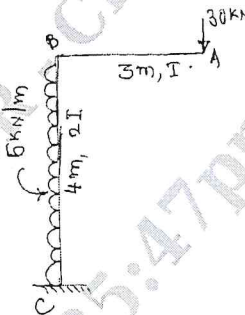

Fig.Q5(b)
b. Find the vertical deflection at free end of a bent frame. Shown in Fig.Q5(b). Use unit load approach.